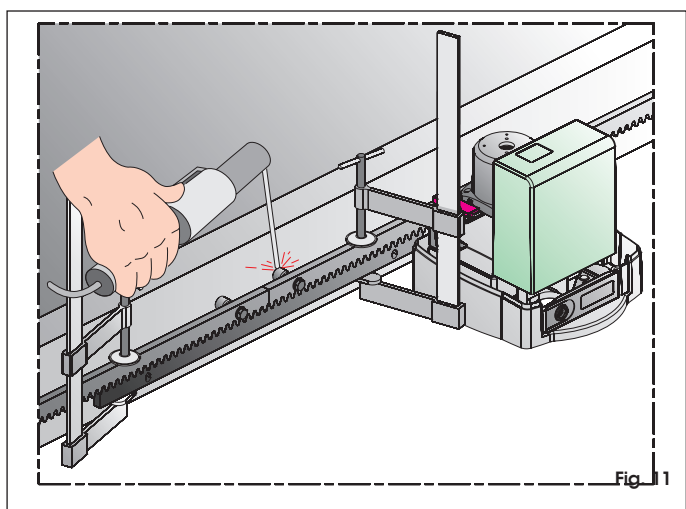

Fig. 11
8. Bring near another rack element to the last fixed element, using a piece of rack to synchronise the teeth with the two elements (fig. 11).
9. Manually slide the leaf toward the closing point until you reach the pinion with the third spacer of the element to be secured (fig. 11).